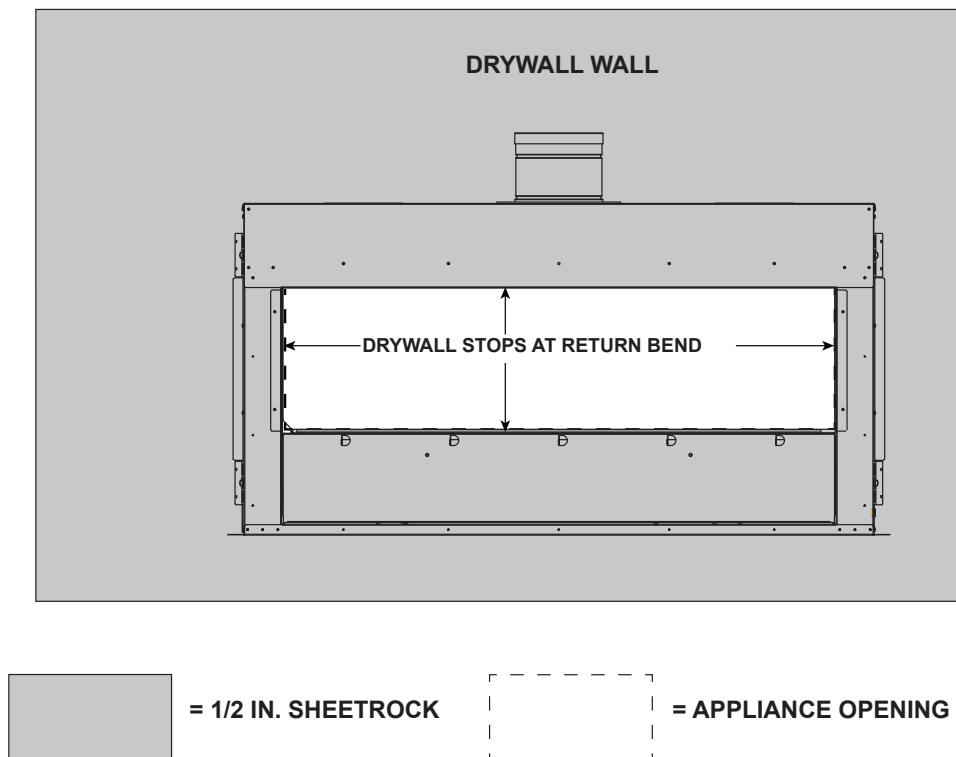
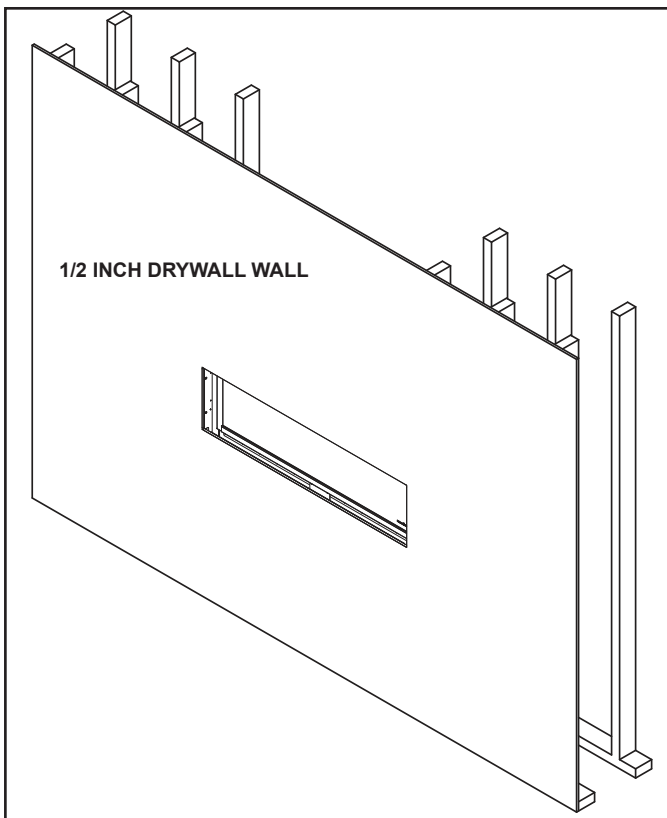

Figure 10.3 Drywall Detail for Both Finishing Methods
Figure 10.4
- Facing and/or finishing materials must never overhang into the glass opening. See Figure 10.3.
1. Install 1/2 inch drywall on wall. Figure 10.4 shows the PRIMO installed. Drywall (1/2 inch) has been installed up to the top, bottom and sides of appliance opening as shown in Figure 10.3 and 10.4. See Section 10.A for more details regarding facing material.